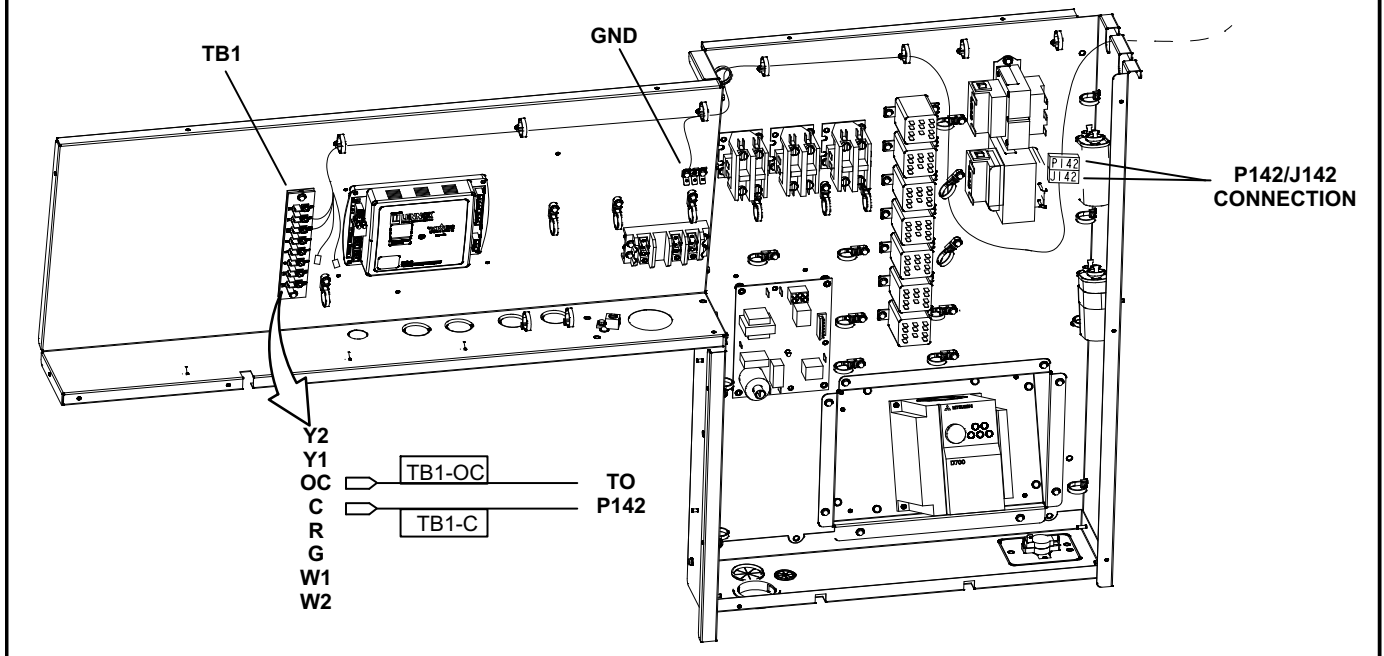

FIGURE 6
- 8- Open compressor access panel on the other side of the unit. Locate the plug (P142) with wires labeled P142-2 & 3 hanging in the upper right area of the control box. See figure 6. Connect the female jack
(J142) from the other kit harness to P142. Wires on the other end of the harness are marked TB1-OC and TB1-C. Connect the two wires to the appropriate terminals on TB1. Secure harness to wiring bundle shown in figure 6.